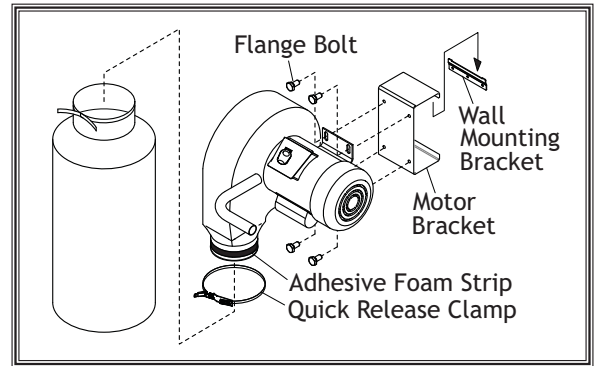

Figure 8. Dust collector assembly diagram.
1. Fasten the motor bracket to the motor base with the four included flange bolts, and install the adhesive foam strip on the dust collector outlet port at the location shown in **Figure 8**.
4. Install the dust collection bag with the bag clamp (see **Figure 8**), then connect the ducting. Refer to **Collection System** on the next page for grounding requirements.